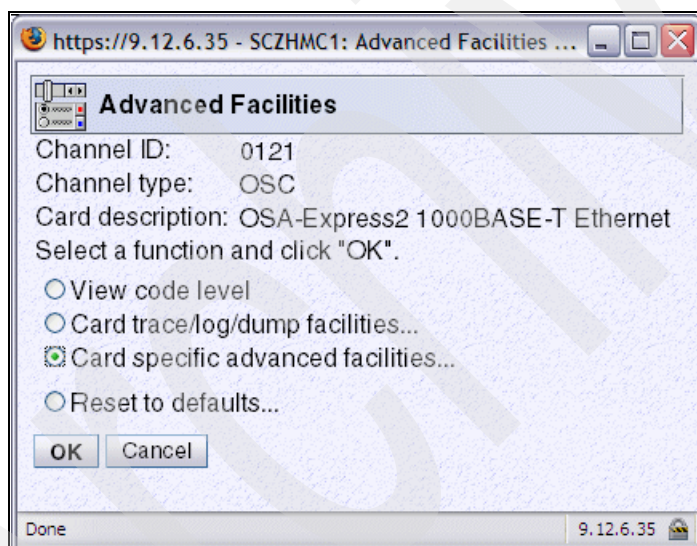

Figure 3-28 HMC - OSA Advanced Facilities (Card specific)
5. Select the radio button **Card specific advanced facilities...** and click **OK** (Figure 3-28).